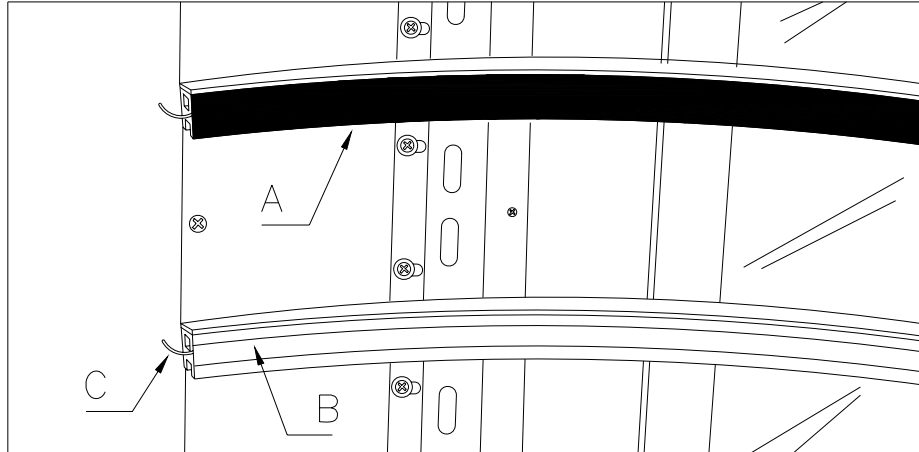

FIG. 17
2. Remove the insulation strip ref. A FIG. 17
3. Remove the dissipator ref. B FIG. 17 with the tip of a screw driver.
4. Remove the resistance ref. C FIG. 17 and remove it from the hole thereby disconnecting it electrically.